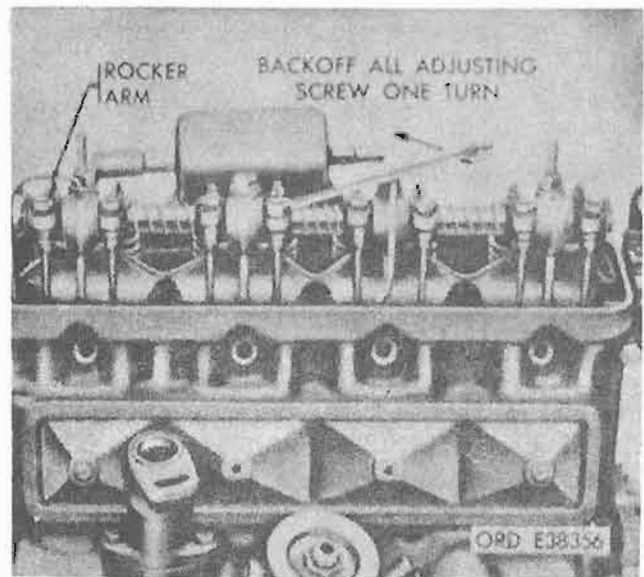

Figure 4-79. Valve adjusting screw.
a. *Valve Adjusting Screws.* Back off eight hex-head self-locking valve adjusting screws one turn to reduce load on rocker arms (fig. 4-79).